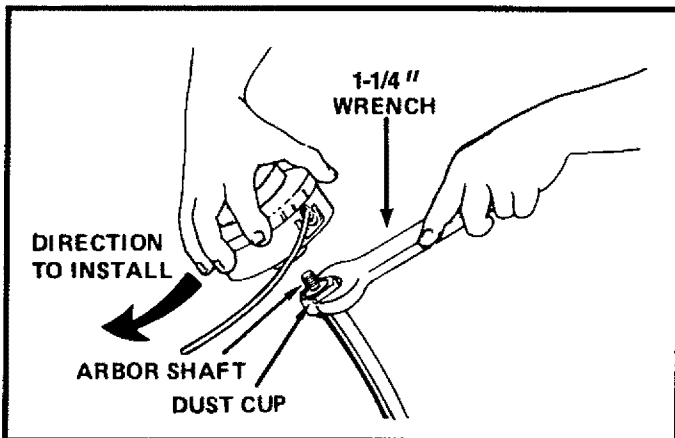

Figure 2
2. CUTTING HEAD — Figure 2
- Hold the dust cup with a 1-1/4" wrench to keep the dust cup from turning. Figure 2.
- Thread the cutting head clockwise onto the arbor shaft, against the dust cup, and as tight as possible with your hand. Figure 2.